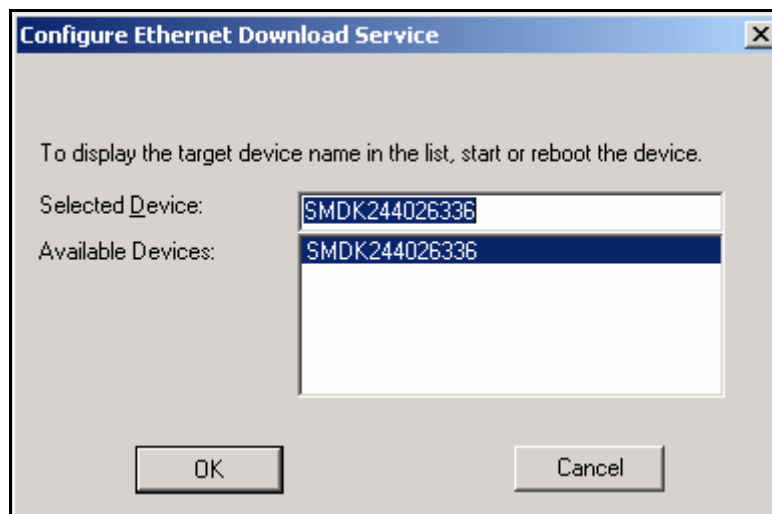

Figure 4-11 Configure Ethernet Download Service
14. From the **Configuration Remote Connection** window, please select 'Ethernet' option from the 'Download' drop down menu box and then click on the 'Configure' button. **Configure Ethernet Download Service** window will appear on your screen as shown in the figure 4-11. Please select the device and then click on the 'OK' button.